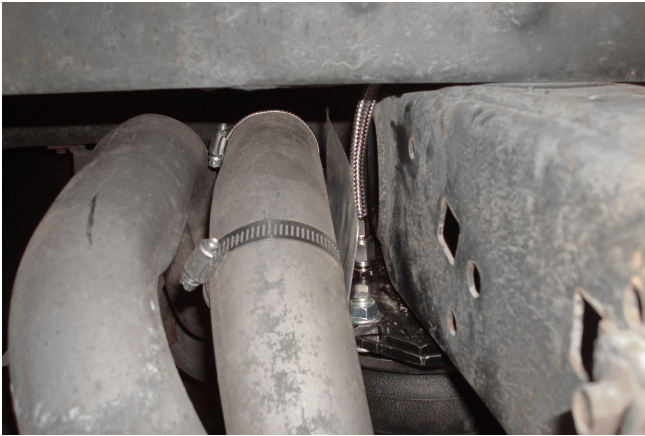

Fig. 29
2. Bend the heat shield up so that it is between the pipe and the air line (Fig. 29 & Fig. 30).